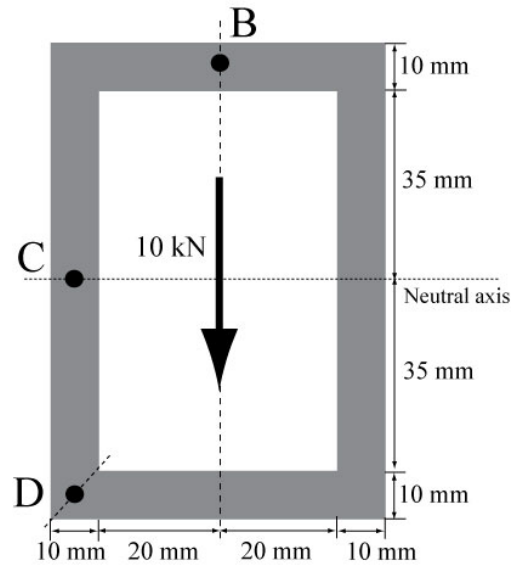

Figure Q2
- Q2. A cross section of the thin-walled box beam is shown in Figure Q2. The thin-walled box beam is subjected to a shear of 10 kN.